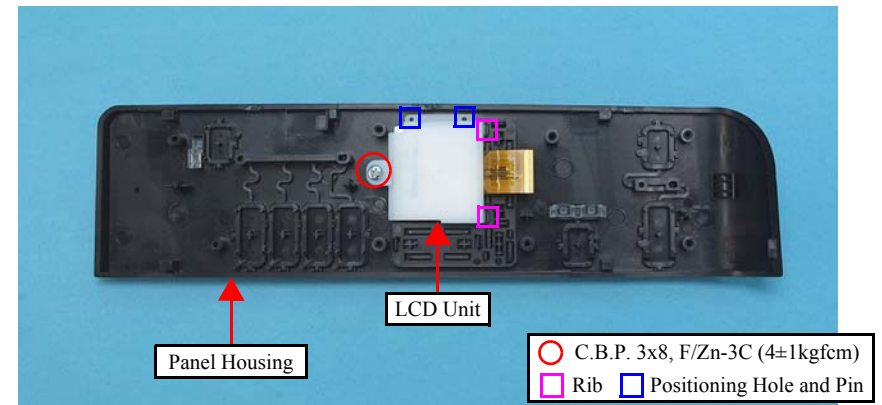

Figure 4-151. Removing the LCD Unit
- When installing the LCD Unit, insert the ribs (x2) of LCD Unit into the holes (x2) on the Panel Housing, and attach it while aligning the positioning holes and pins. (See Figure 4-151.)